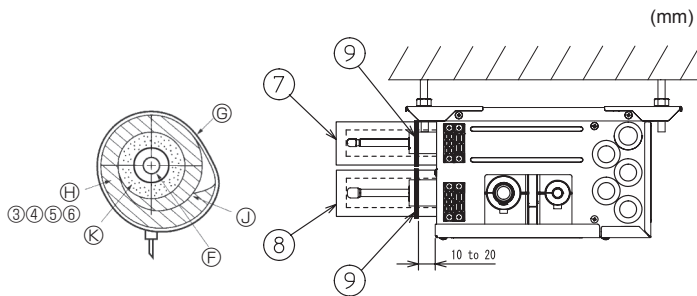

Fig. 7-6
- (6) Press the pipe covers (3) and (5) on the liquid piping against the unit and wrap to hold in place. (Fig. 7-6)
- (7) Press the pipe covers (4) and (6) on the gas piping against the unit and wrap to hold in place. (Fig. 7-6)